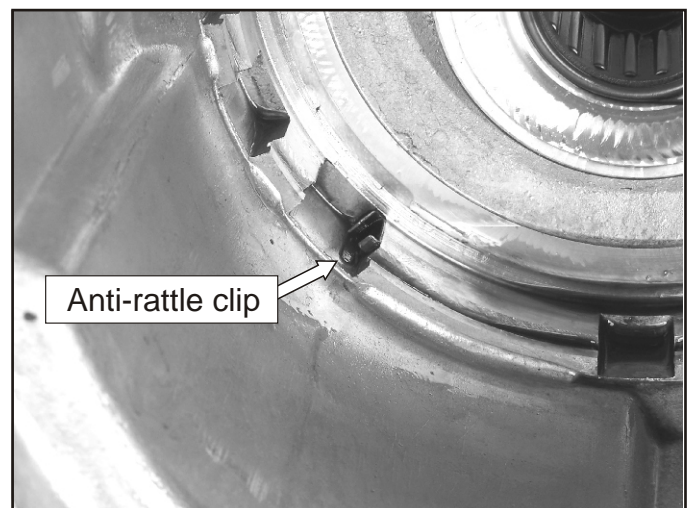

Figure 69
18. Remove the Anti-rattle clip as shown in Figure 69.